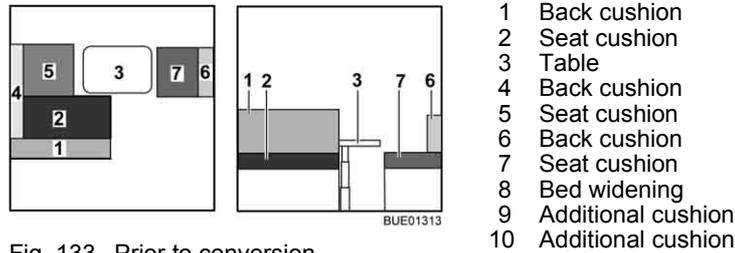

Fig. 133 Prior to conversion
- Convert the table (Fig. 133,3) to a bed foundation (see section 6.10).
- Remove the back cushions (Fig. 133,1, 4 and 6) and lay them aside.